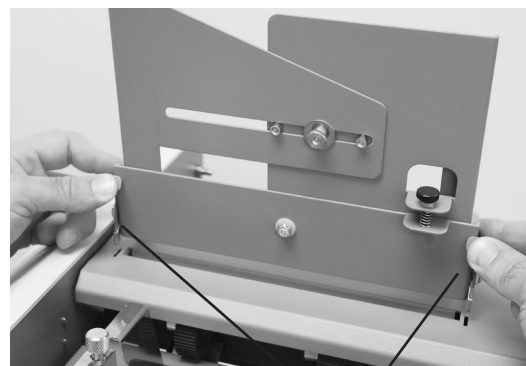

Fig. 11c
4. If the fold is skewed, turn the skew adjustment knob located on the back of the feeder left or right to make corrections (Fig 11c).